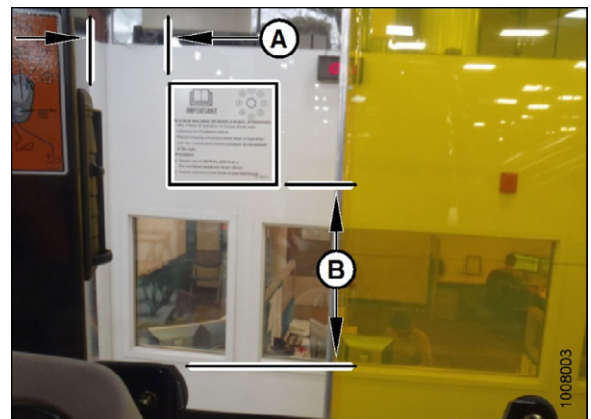

Figure 3 – RH Window Decal
2. Apply new decal (170 ft-lbs) in the same location. Refer to the approximate dimensions in Figure 3.